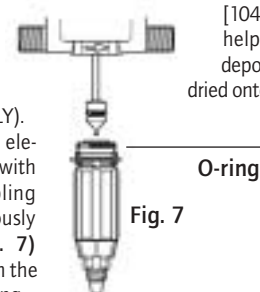

Fig. 7
- 1 - When using soluble products to be made up into solutions, we recommend periodically dismantling of the entire dosing part (see : § CLEANING AND REFITTING THE SUCTION VALVE § CHANGING SEALS IN THE INJECTION ASSEMBLY). Thoroughly rinsing all the elements of the dosing part with water and re-assembling them after having previously lubricated the seal (Fig. 7) with a silicone lubricant, in the case of difficulty in re-fitting.